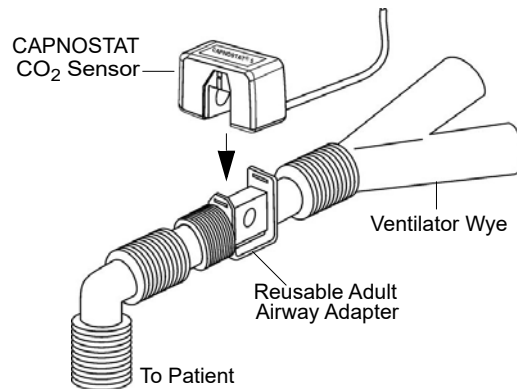

Figure 2
1. Place the CAPNOSTAT 5 CO₂ sensor/airway adapter assembly between the elbow and the ventilator circuit wye, as shown in Figure 2.